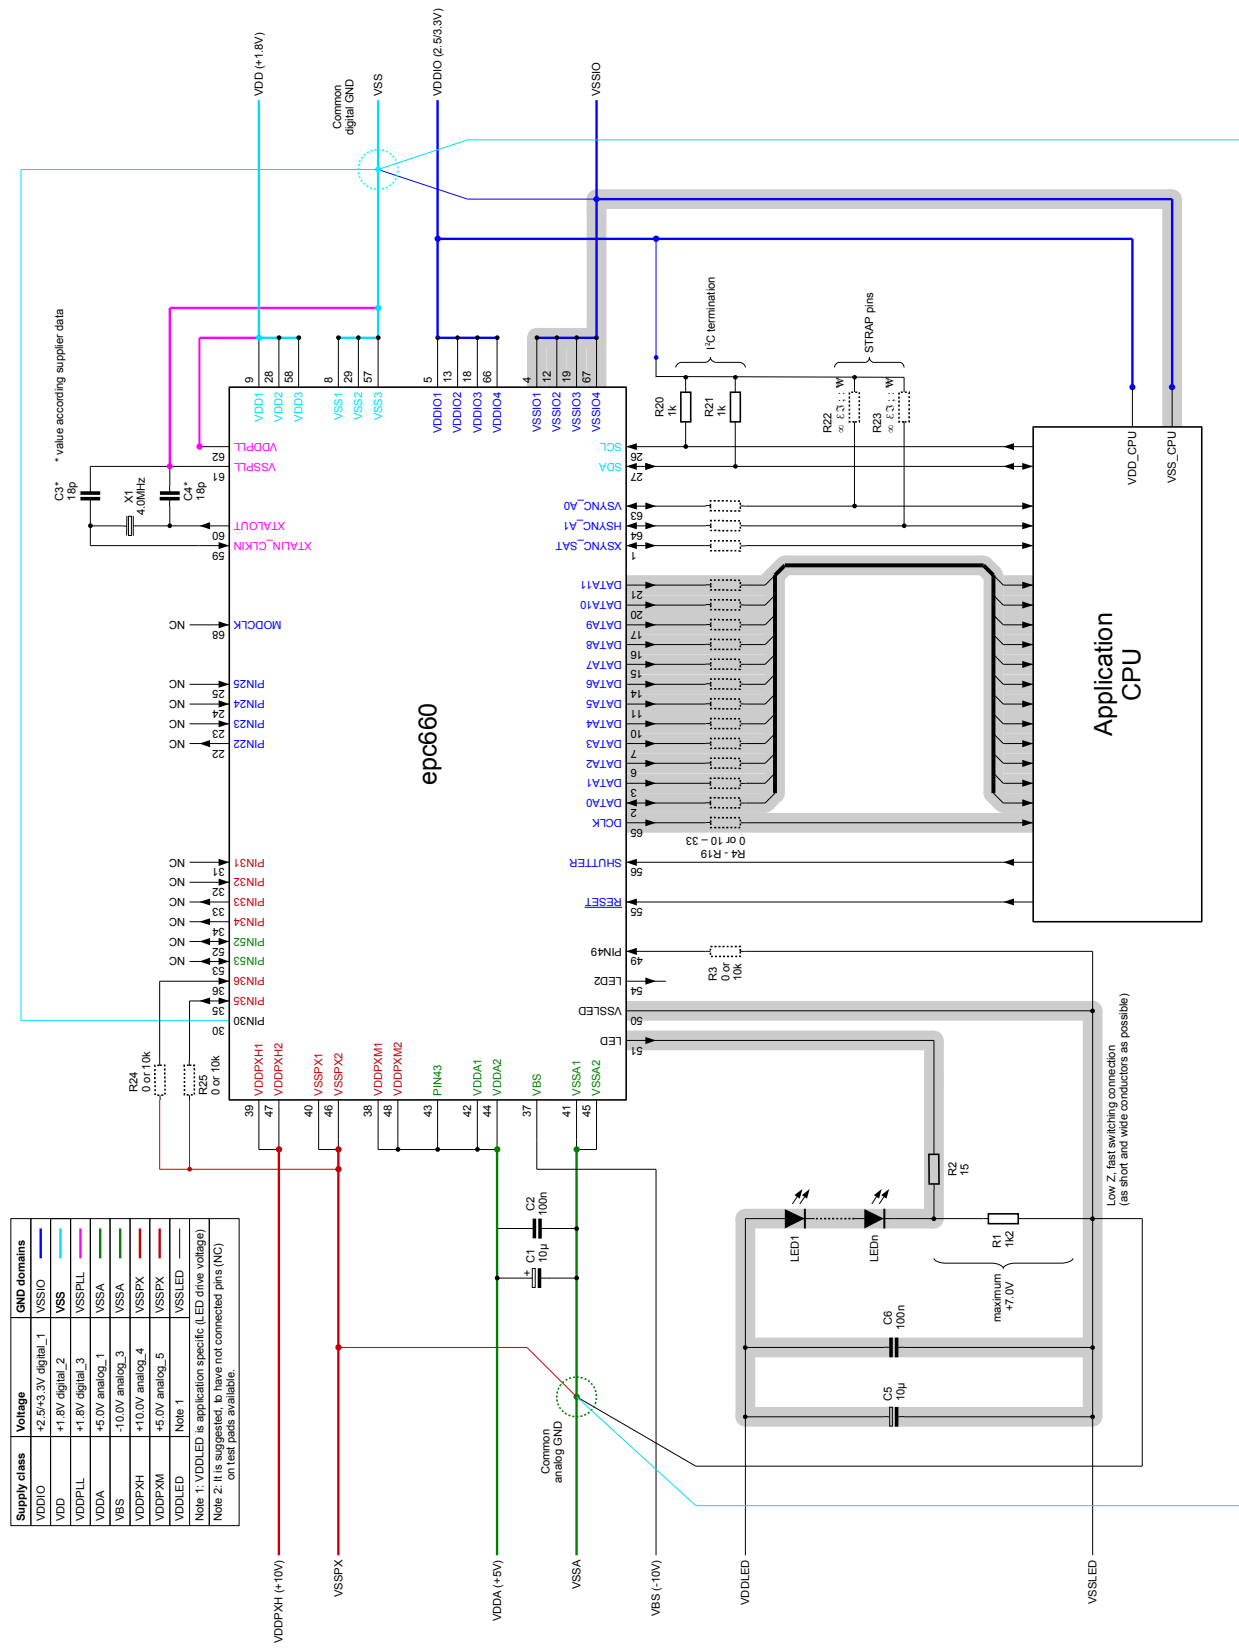
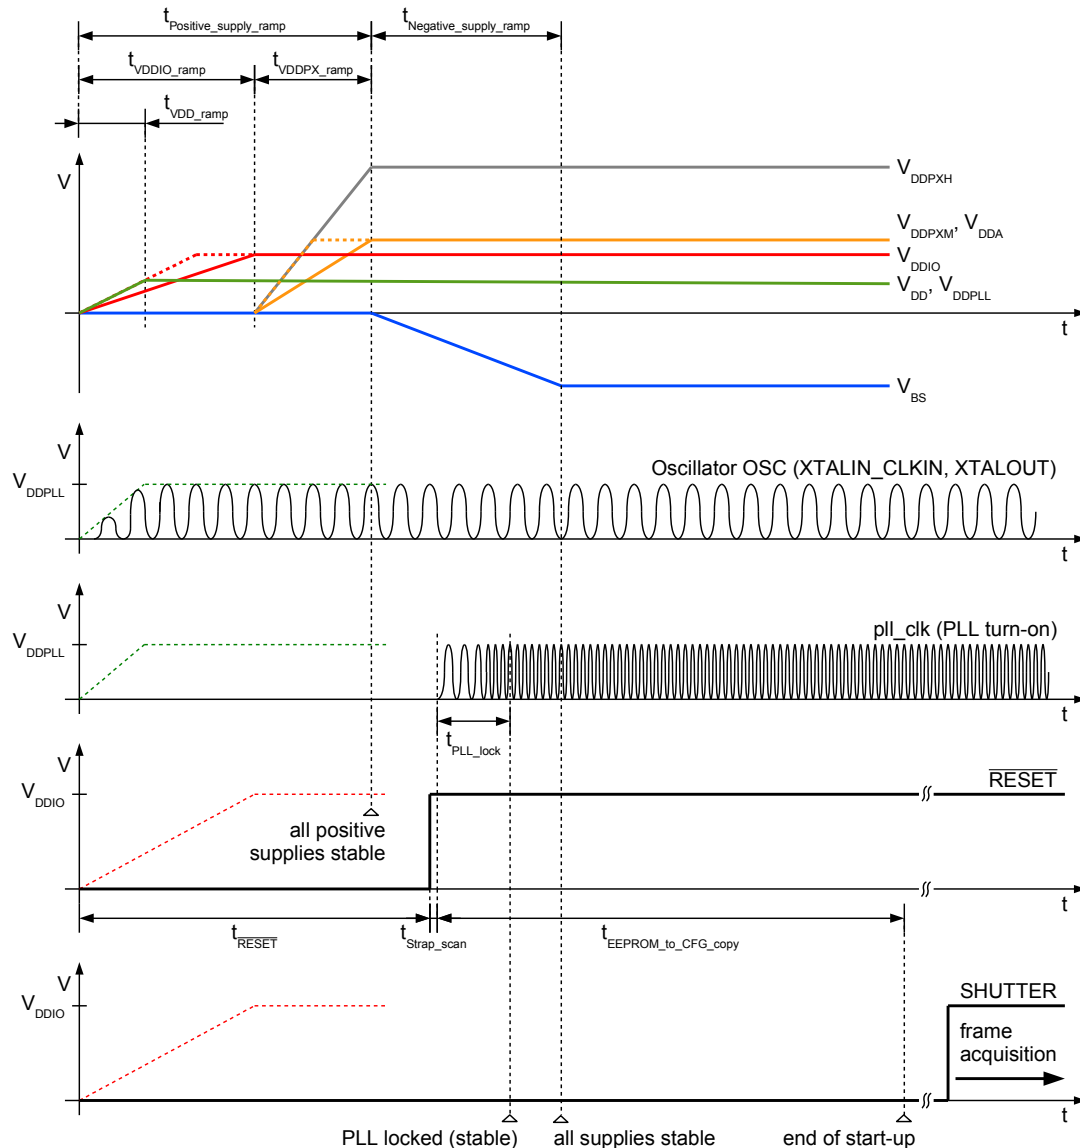

Figure 14: Typical application diagram
Figure 18: Power-up and reset sequence
Table 10: Values of component related to epc660 chip, see Figure 14
- epc660 is supplied with +1.8V, +2.5/3.3V, +5V, +10V and -10V. See Figure 14.
- +1.8V is used for supplying the digital logic (VDD), the on-chip oscillator OSC and the phase-look-loop PLL (VDDPLL). These supplies are marked in the application diagram as VDD and VDDPLL respectively (Figure 14). Their supply wiring must be separated from the digital wires and physically isolated from each other. The XTAL/OSC and PLL are critical parts of the chip which directly impacts the optical system performance (i.e. distance calculation). Thereof, the VDDPLL supply needs a well decoupling from VDD, because the digital logic creates some internal switching noise on VDD.
- +5V is used for supplying analog blocks of the chip e.g. pixel-field drivers and ADC readout circuitry. Refer to Figure 14.
16. Pins not listed here have to be connected according Figure 14.
During the power-up sequence, VDD and VDDPLL supplies (Figure 18) must be applied at the same time to the epc660. VDDIO can be applied either at the same time or after VDD and VDDPLL supplies become stable. In a system where VDDIO voltage is connected in parallel to application CPU IO supply pins (see Figure 14), VDD and VDDPLL can be generated by a linear regulator directly from VDDIO supply. In this case, all these three supplies ramp together.
The epc660 starts using either the internal 4MHz oscillator OSC with a crystal/resonator (Figure 14) or an external 4MHz clock, followed by an EEPROM copy sequence in parallel to the PLL turn-on phase. This is the factory default configuration. Several configuration registers are modified by copying the EEPROM content (Figure 60, i.e. overwrite reset values). The EEPROM copy step takes 340µs after the RESET is released.
The epc660 has output pins with dual/alternative functionality for PCB level flexible start-up configuration changing, called 'strap pins'. RESET release is followed by a strap pin scanning step. The chip programs its strap pins as inputs with internal pull-down resistors enabled for 4 osc\_clk periods (refer to Table 1 and Table 3.). If there is no external pull-up resistor connected, the corresponding strap pin will be scanned as logic 0 due to the internal pull-down resistor. If there is an external pull-up resistor connected (Figure 14), it will override the internal pull-down and corresponding pin will be scanned as logic 1. After the strap scan period, pins are programmed back as outputs so that they can be used for their main function. Strap pins and their definitions are listed below (Table 11).